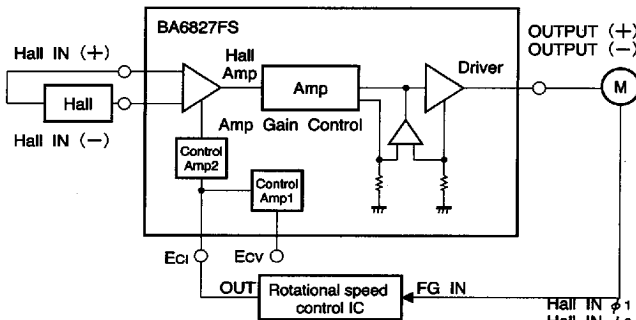

Fig.6
(1) The signal from the Hall device is amplified by the Hall amplifier and then supplied to the driver circuit. The driver gain, which is constant, is regulated by changing the Hall amplifier gain with the E_{ci} input current or the E_{cv} input voltage (E_{ci} and E_{cv} are output current control pins). The motor rotational speed is sensed by the FG, and the output from which is F/I-converted and supplied to the E_{ci} pin or F/V-converted and supplied to the E_{cv} pin as a feedback signal, so that a constant rotational speed is maintained as follows (Fig. 6) :